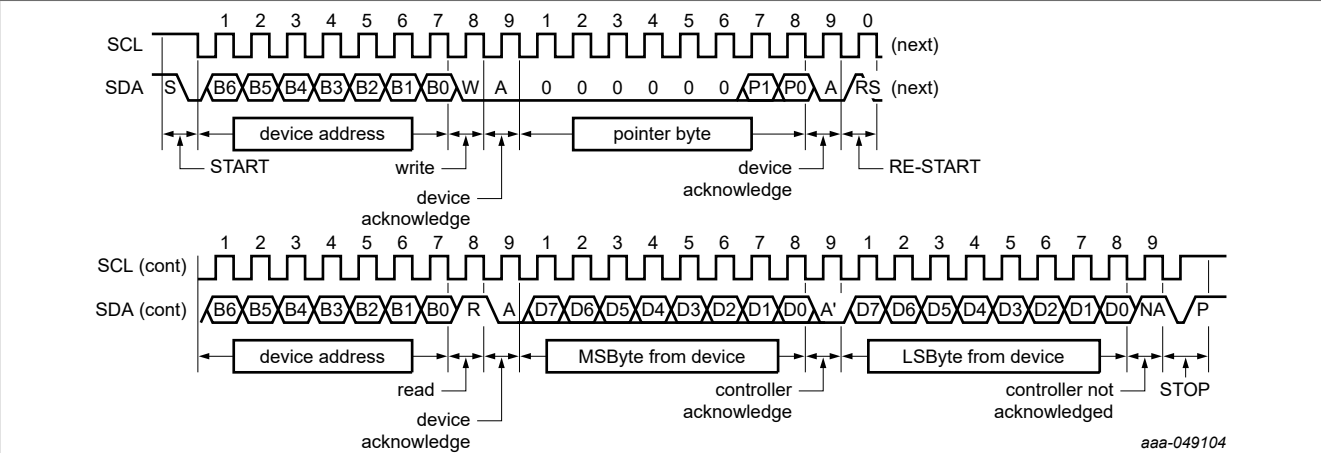

Figure 19. Read register including pointer byte (2-byte data)
14. For best temperature accuracy both temperature bytes should be read as shown in Figure 19 and Figure 20 but for a quick less accurate check/reduce bus transmission then only one byte, the MSByte, needs to be read as shown in Figure 20.